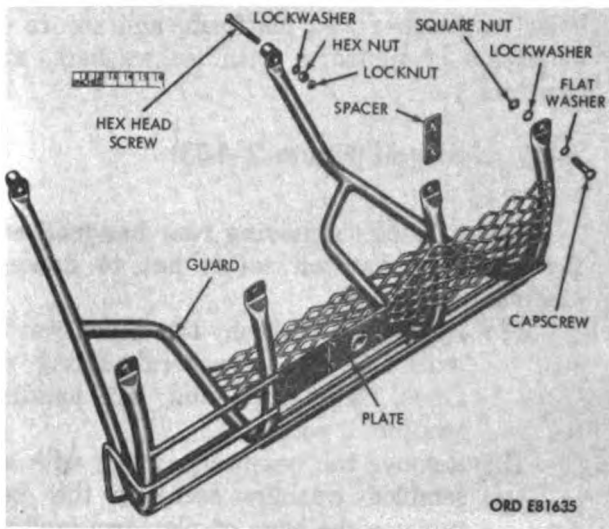

Figure 2-104. Engine guard—M274A3—
**2-88. Engine Guard—M274A3 (Figure 2-104)**